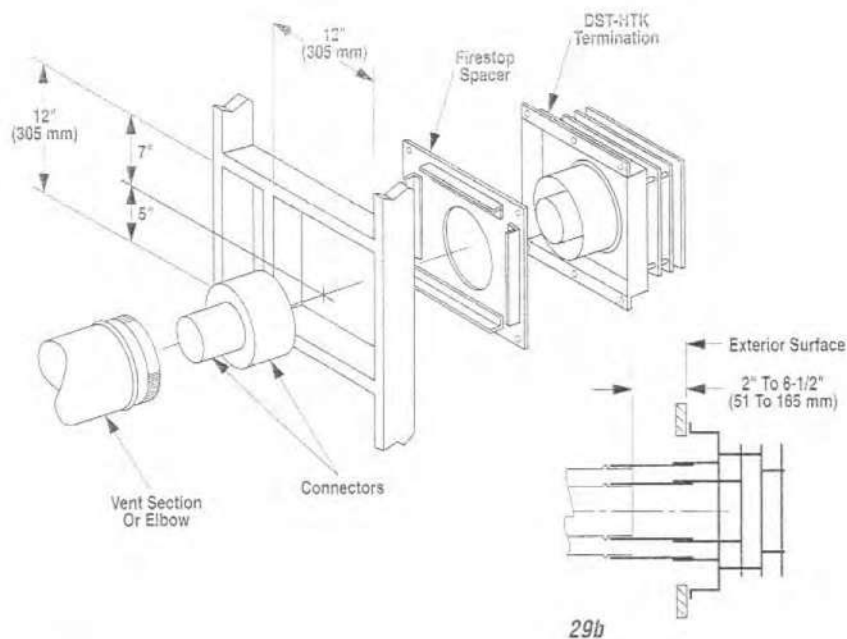

Figure 29
K. To install the DST-HTK apply a liberal bead of high temperature caulking at the perimeter mounting flange for sealing purposes. Orient the housing with surface marked "top" upward. Visually align at the opening and carefully insert to engage over both inner and outer connector tubes. Slide inward until the housing bottoms at the finished exterior wall. Secure with 6d nails at holes in upper and lower flanges (Figure 29).